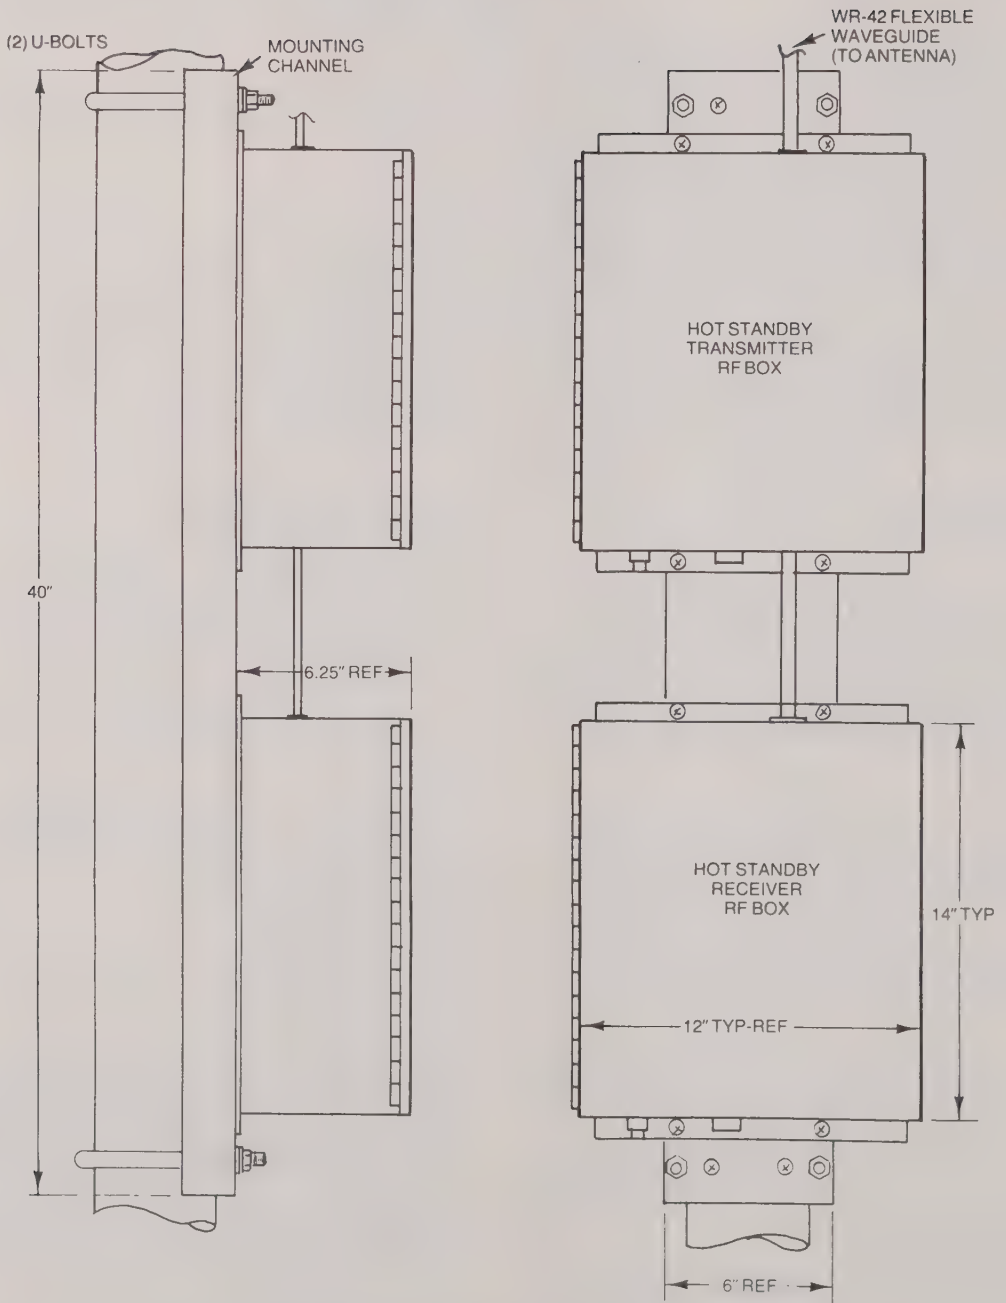

Figure 3-25. Hot Standby Duplex RF Assembly
**MOUNTING OF HOT STANDBY DUPLEX RF ASSEMBLY.** The MA-23DR Hot Standby RF Assembly (Figure 3-25) consists of two weather-resistant RF Units designed for pole or tower mounting, a Hot Standby Transmitter RF Unit, and a Hot Standby Receiver RF Unit interconnected by a straight piece of WR-42 waveguide and assembled to a common mounting channel. Three U-bolts are provided for mounting on a vertical mast (4 to 4.5" O.D.). A 3 foot length of flexible WR-42 is provided for connection to the antenna.